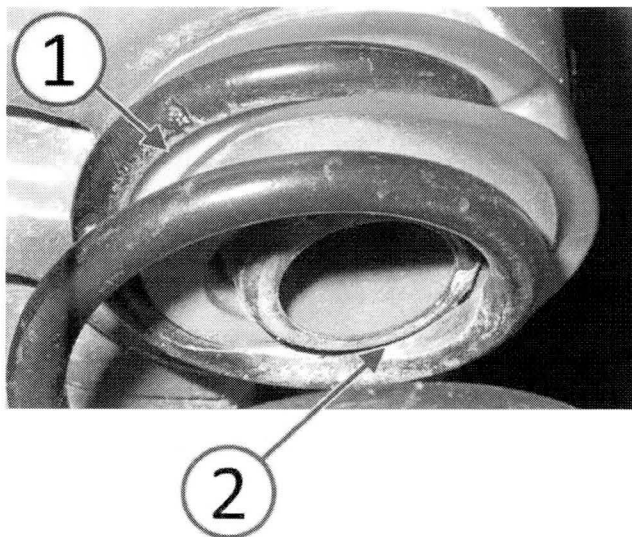

Fig. 2 Spring Shifted In Upper Isolator
2. Is the right side rear spring shifted in the upper spring seat isolator (1) and/or possibly touching the upper spring seat (2) as shown in (Fig. 2)?